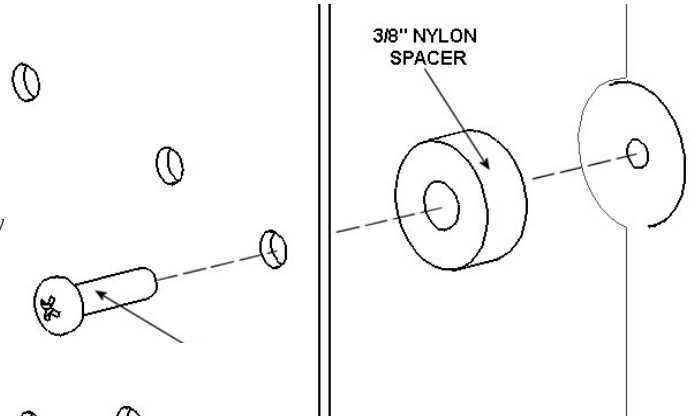
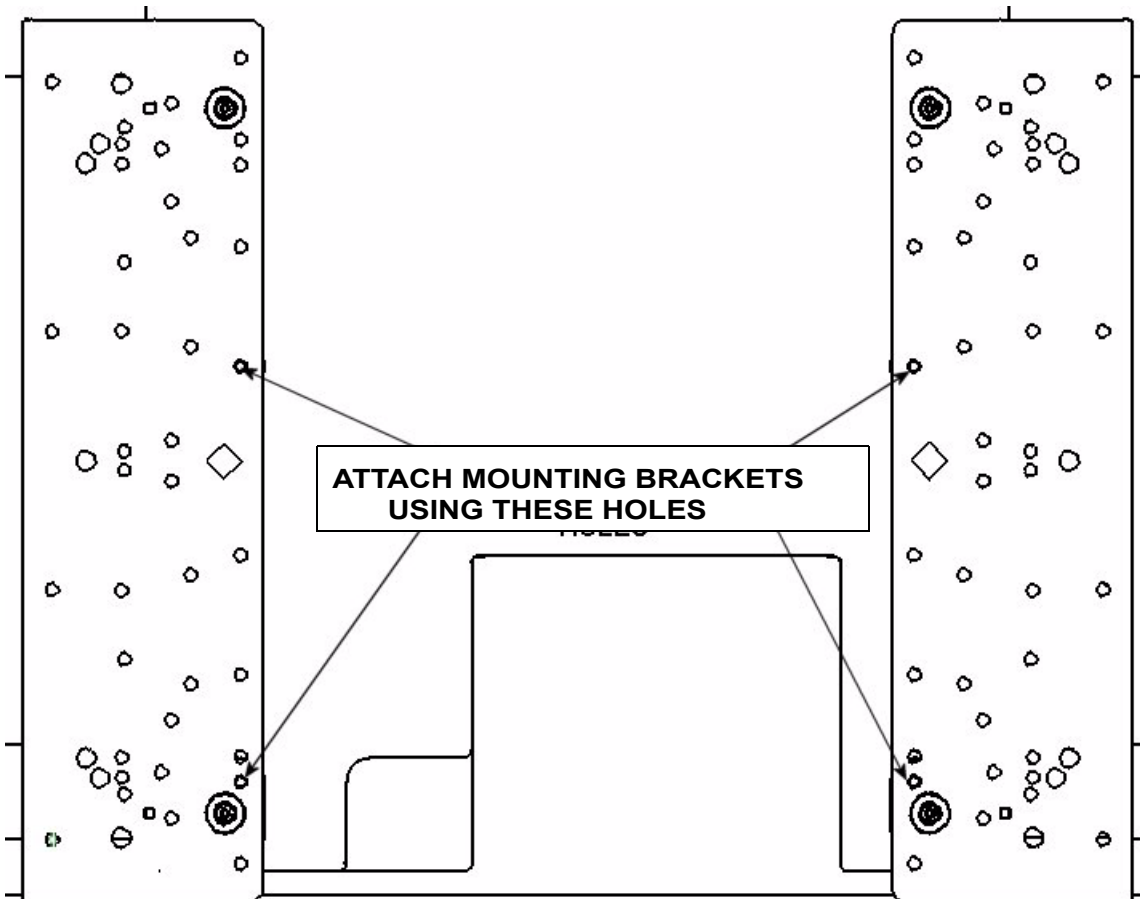

Figure 16. Spacer Installation for Group 7
Figure 17. Bracket Attachment for Group 7
4. Place the interface brackets over the Nylon spacers (see Figure 16 and Figure 17).
6. Using the hardware in the parts bag labeled C, attach the interface brackets to your display in the proper holes in each interface bracket (See Figure 16 and Figure 17). Do not overtighten the mounting screws.